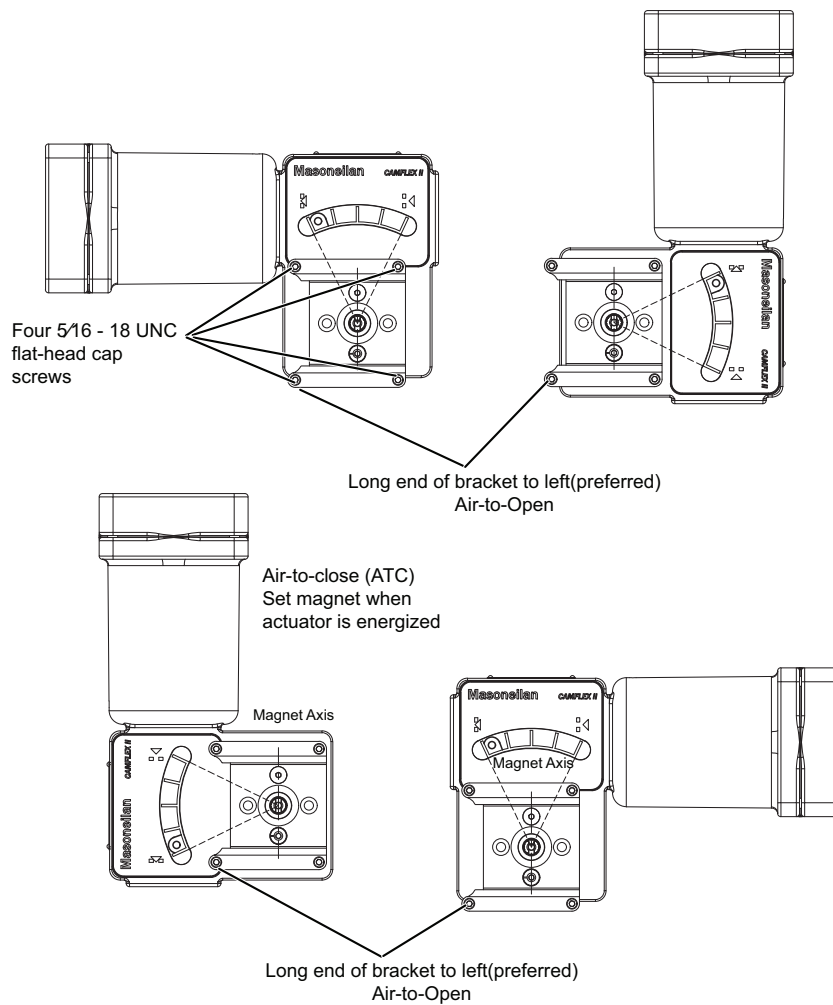

Figure 8 Camflex ATO and ATC Mounting
1. Attach the SVI3 rotary mounting bracket to the valve actuator with two 5/16 - 18 UNC flat-head cap screws and tighten using 3/16" Hex Key as shown in Figure 8.
5. Rotate the magnet holder so that the magnet axis is vertical when the valve is in the closed position (see Figure 8). Table 2 shows the general guidelines for travel sensor alignment. Review the table prior to installing the SVI3 on a rotary valve actuator for proper alignment of the magnet.